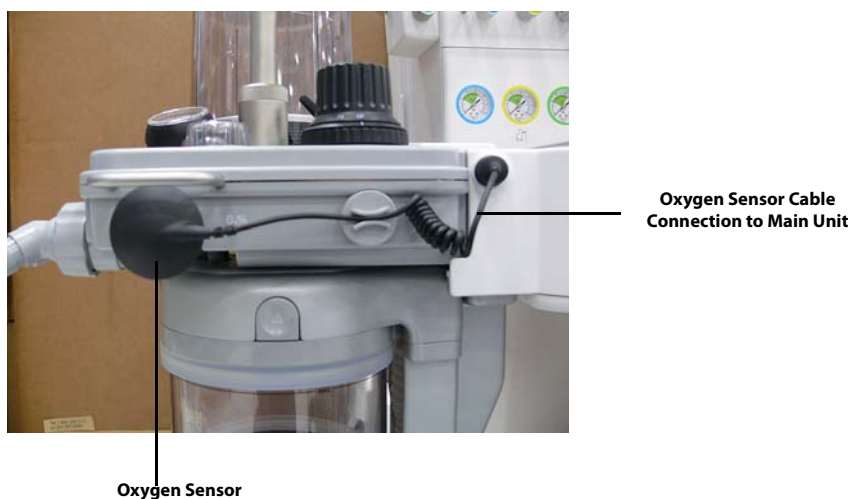

FIGURE 7-13 Oxygen Sensor and Cable
1. The oxygen sensor is a component that is pressed into position for use. It is not necessary to remove this component to clean it. However, if removal is desired, first disconnect the oxygen sensor cable from the main unit (see FIGURE 7-13). Then hold the oxygen sensor and pull straight out firmly from the breathing system block